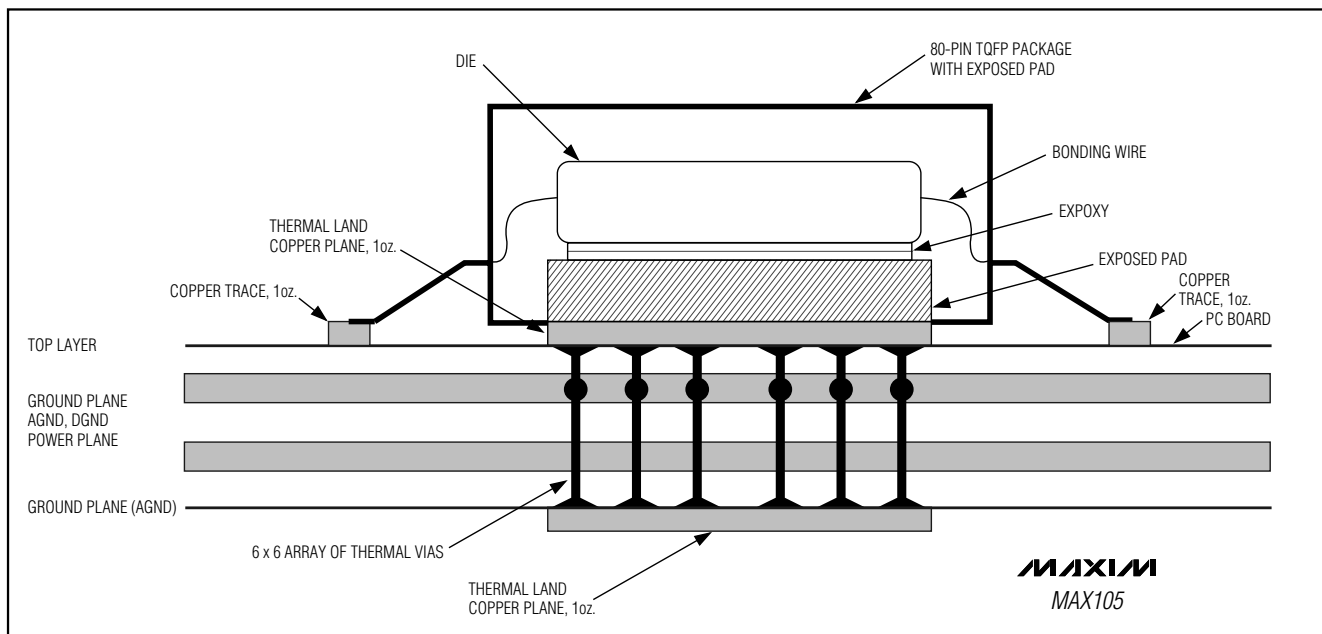

Figure 10. MAX105 Exposed Pad Package Cross-Section
age, the data converter die is attached to an exposed pad (EP) leadframe using a thermally conductive epoxy. The package is molded in a way, that this leadframe is exposed at the surface, facing the printed circuit board (PC board) side of the package (Figure 10). This allows the package to be attached to the PC board with standard infrared (IR) flow soldering techniques. A specially created land pattern on the PC board, matching the size of the EP (7.5mm x 7.5mm) does not only guarantee proper attachment of the chip, but can also be used for heat-sinking purposes. Designing thermal vias* into the land area and implementing large ground planes in the PC board design, further enhance the thermal conductivity between board and package. To remove heat from an 80-pin TQFP package efficiently, an array of 6 x 6 vias ($\leq 0.3\text{mm}$ diameter per via hole and 1.2mm pitch between via holes) is required.